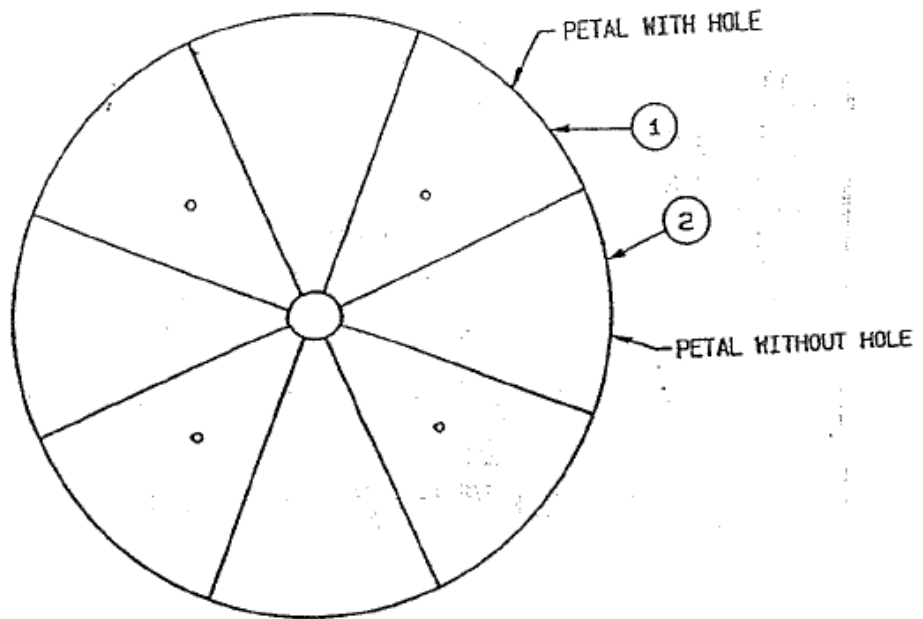

FIGURE 2.2-1
1. Refer to figure 2.2-1 for the correct orientation and placement of the four petals with the feed clevises attached. (NOTE: Every other petal has a feed clevis.) Place two petals rim down on the level surface with their flanges next to each other. A 24" long wooden support such as a 4 x 4, will help hold the narrow ends of the petals (figure 2.2-2).